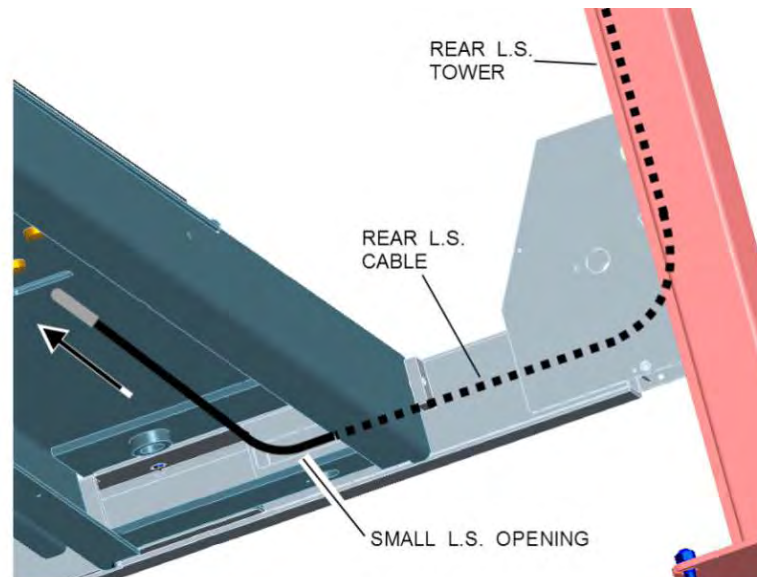

**Figure 34**
- Anchor threaded end of the rear left cable into the top plate of the rear left tower (**Fig.34**). Use one 7/8" ID flat washer and two 7/8-14 UNF hex nuts (see hardware kit).